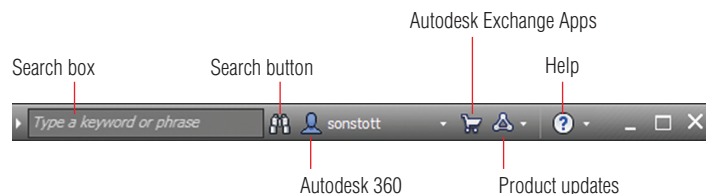

FIGURE 1.16 InfoCenter
12. Take a look at the InfoCenter at the top right of the screen (see Figure 1.16). Click in the search box and type `solid`.